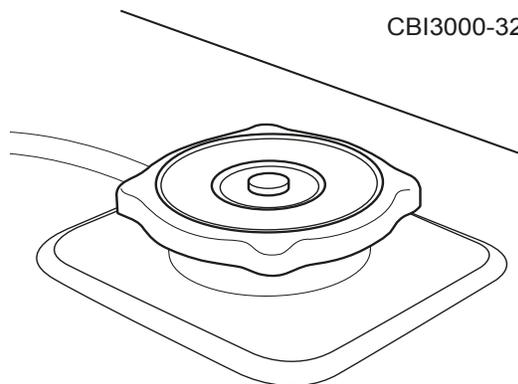

Figure 6.37 - Engine Coolant Fill Cap
2. Remove Fill Cap - Slowly remove the engine coolant fill cap from the top of the radiator (Figure 6.37). Ensure that no contaminants enter the cooling system once the cap is removed.